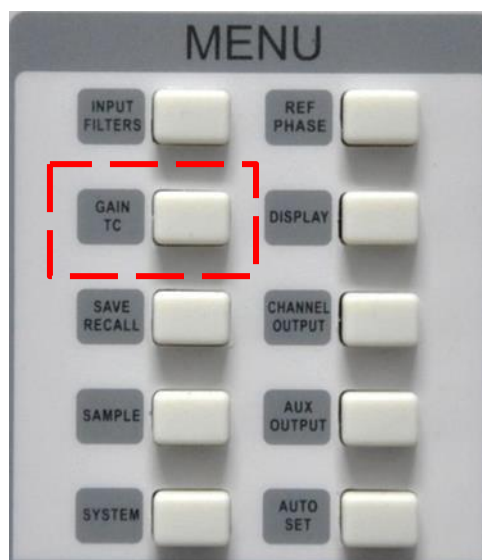

Fig.90 [GAIN/TC] Menu
5. Press [GAIN/TC] in front panel and then enter the submenu shown in Fig.90.